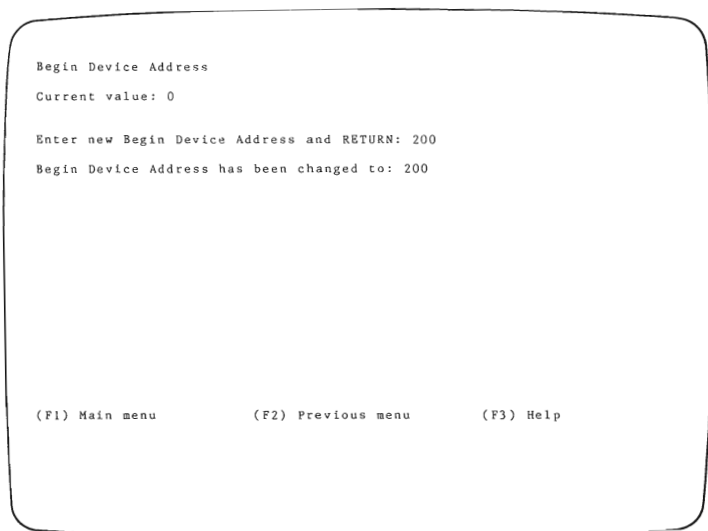

Figure 3-43. Begin Device Address Change
Use the *Begin Device Address* screen (figure 3-43) to specify the first data byte in a device to be used in programmer operations and data transfers. Any bytes in address locations before the *Begin Device Address* are not affected by any operation. Enter the desired beginning address in hexadecimal, or press the RETURN key to set the beginning address to the default value (0). Pressing the F2 key returns you to the *Set Operation Boundaries* menu.